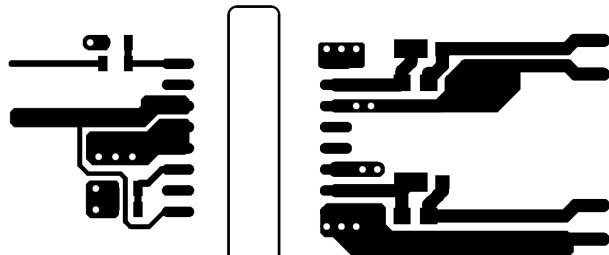
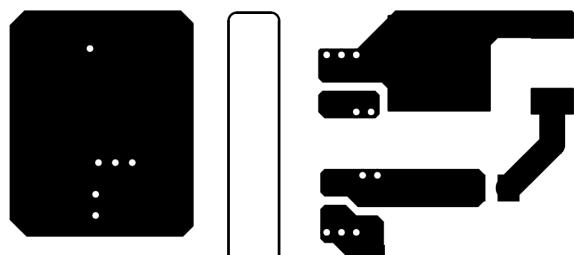

图 10-2. Top Layer Traces and Copper
图 10-3. Bottom Layer Traces and Copper
- Increasing the PCB copper connecting to VDDA, VDDB, VSSA and VSSB pins is recommended (See 图 10-2 and 图 10-3). However, high voltage PCB considerations mentioned above must be maintained.
图 10-2 and 图 10-3 shows top and bottom layer traces and copper.